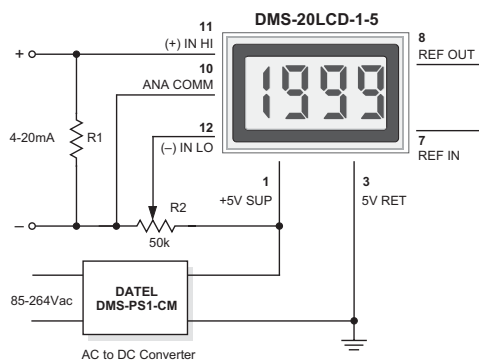

Figure 7. 4-to-20mA Current Loop Operation (5V-Powered Models)
- 5. Process Control (4-to-20mA) Measurements:** In many common process-control applications, a 4-to-20mA current loop is used to transmit information. Because DMS-20LCD meters have such high input impedance, a simple shunt resistor across the meter's input can be used to convert the loop current to a voltage. See Figure 7. The value of the shunt resistor is a
To calibrate the circuit of Figure 7, perform the following: